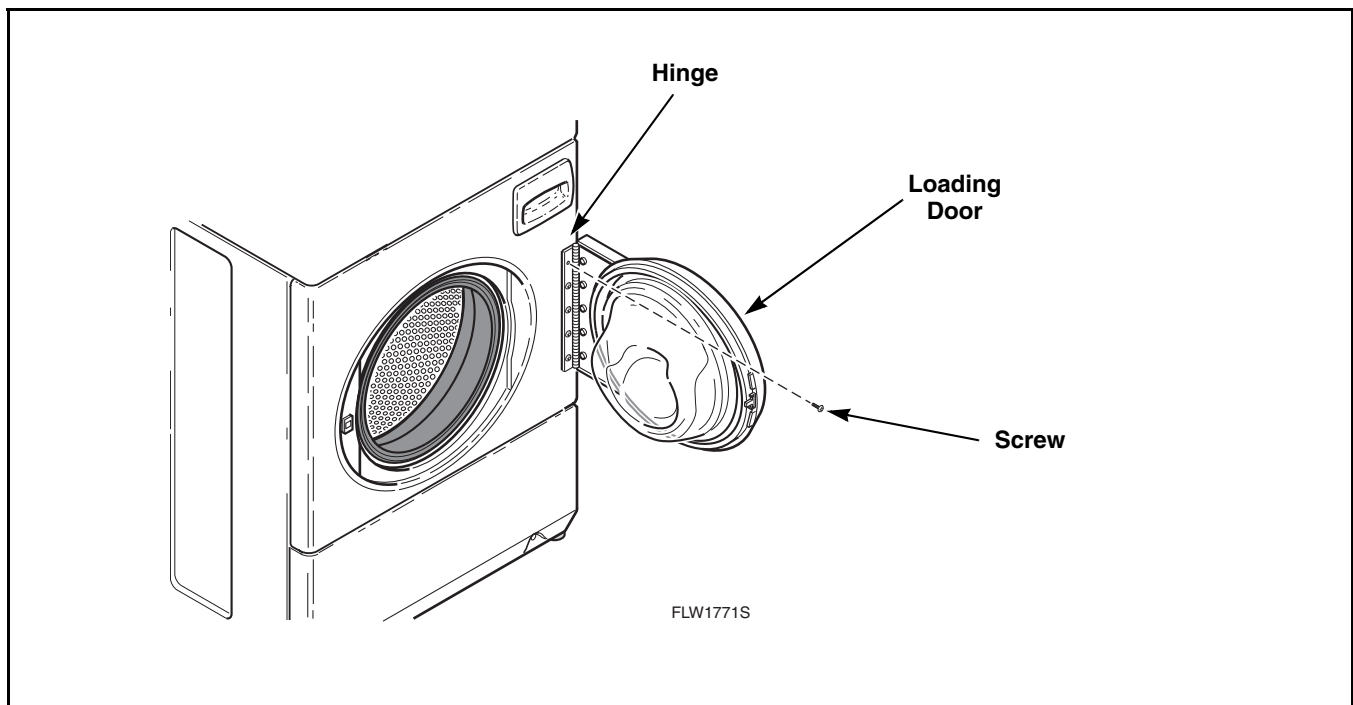

Figure 6
- b. The loading door can be adjusted up or down somewhat by loosening screws holding door hinge to front panel, then raise or lower door before retightening screws. Refer to *Figure 6*.